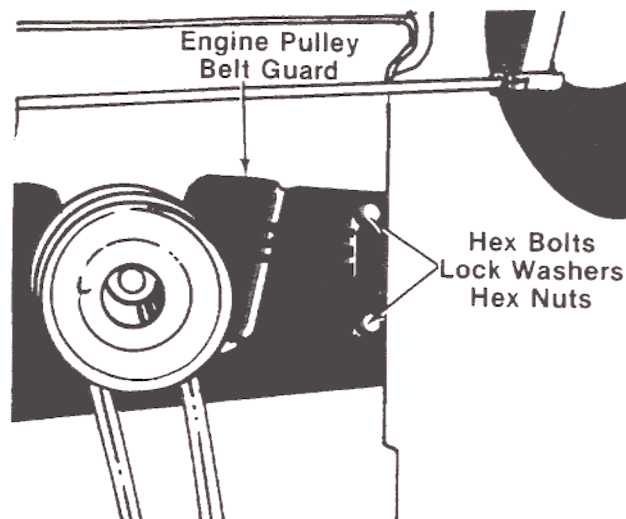

FIGURE 26.
2. Remove the two bolts, lock washers and nuts on each side of the frame which hold the engine pulley belt guard to the frame. See figure 26.